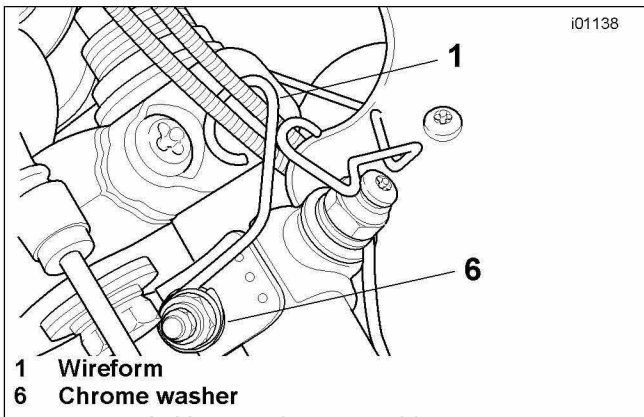

Figure 3. Throttle Cable Attachment
- f. Hold adjuster with 1/2 inch wrench. Using 9/16 inch wrench, tighten jam nut against cable adjuster. Cover cable adjuster mechanism with rubber boot (2).
2. **For handlebar styles other than buckhorn pullbacks,** see Figure 3. Use wireform (1) included in kit to secure throttle cables to upper mounting clamp as shown in illustration (bottom view). Place chrome washer from kit (Item 6 on Service Parts Page 4) between wireform and mounting clamp nut.